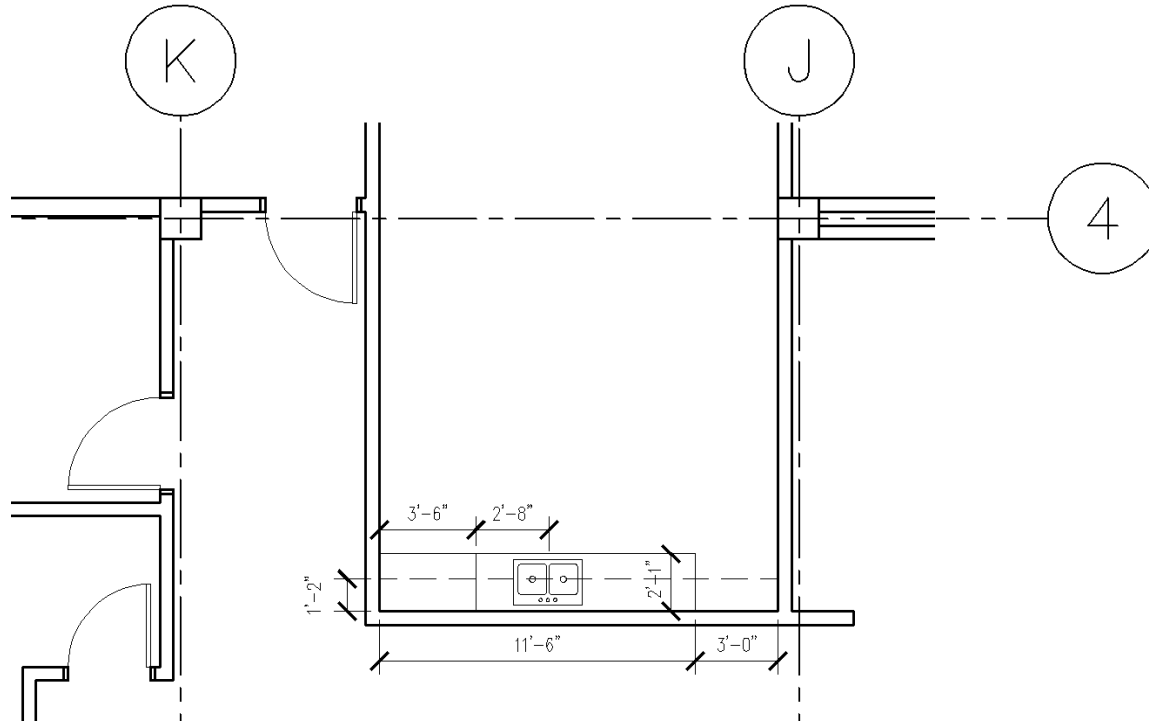

FIGURE 4-2.2 Drawing the break room casework
3. Draw the cabinets shown in Figure 4-2.2, *plus*: